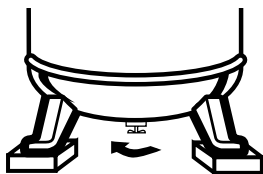

Figure 6 - Opening Drain Cock
1. Open drain cock completely and run the compressor for 60 minutes (see Figure 6).